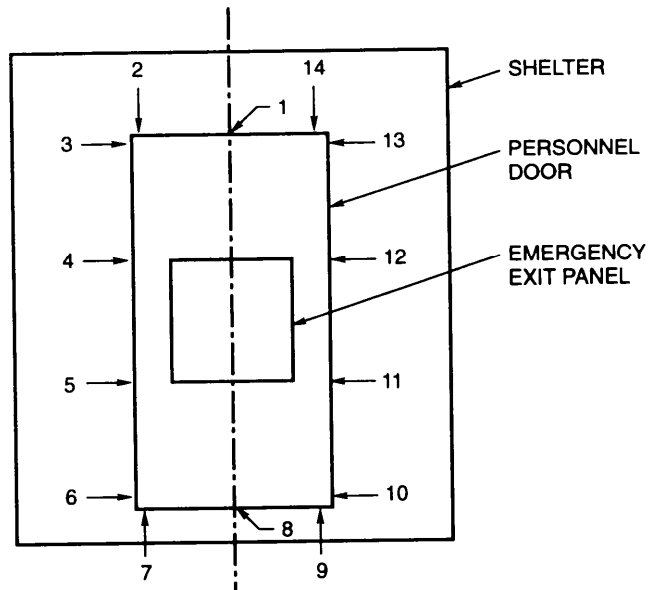
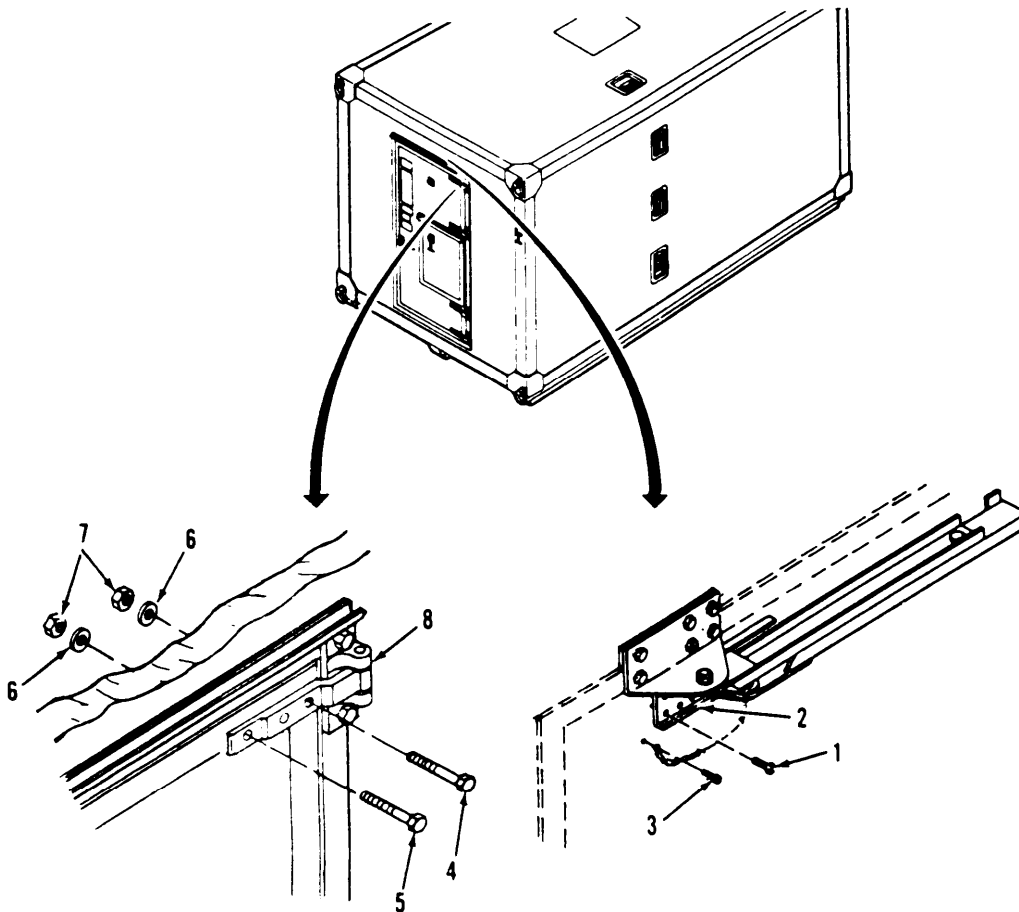
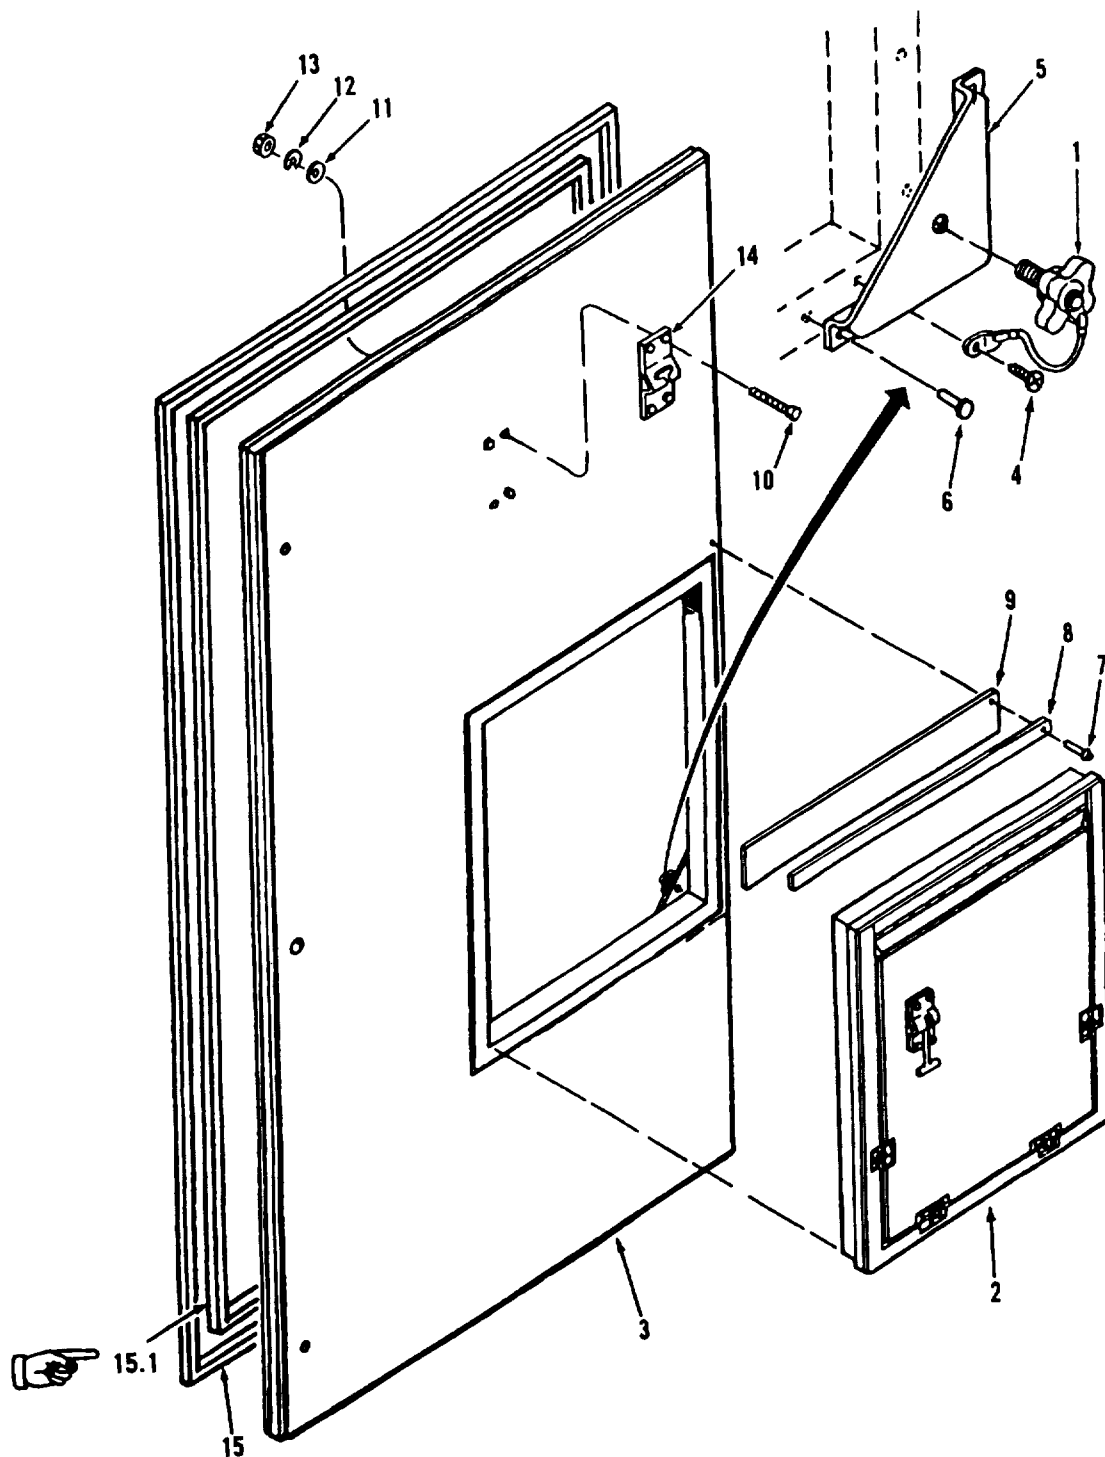
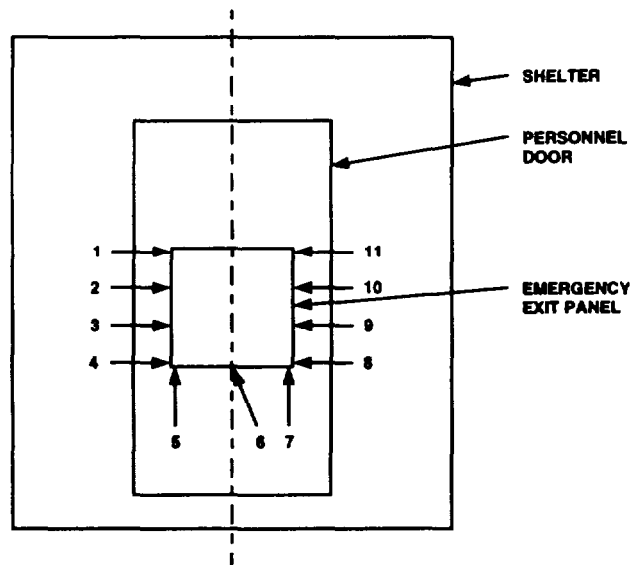

Figure 3-17. Typical Locations for Door Gasket Testing.
Figure 3-19. Door Assembly Replacement
Figure 3-20. Door Assembly Maintenance.
Figure 3-21. Typical Locations for Emergency Exit Panel Gasket Testing
a. Inspect. (Figure 3-20)
- (1) Inspect the door assembly (2) for external damage.
- (2) Inspect the silicone weather gasket (15) for tightness.
- (3) (Shielded) Inspect the EM gasket (1.1) for damage and secure mounting.
- (4) Inspect the door for positive closing and proper operation.
- (5) Inspect the knob assemblies (1) for tightness for securing the emergency exit panel (2) to door panel.
b. Test. (Figure 3-17) Test of the door assembly consists of testing for proper seal pressure on the silicone weather gasket. The procedure listed below shall be performed at the center top and bottom of the door; 1/2 inch from each corner; and along the sides of the door in 2 places (approximately 1/3 and 2/3 the height of the door), as shown in Figure 3-17.
- (1) Place a single piece of paper (0.005 inches maximum thickness by 2-1/2 inches wide) between the silicone weather gasket and its bearing surface.
- (2) Close and lock the door.
d. Remove. (Figure 3-19)
- (1) Remove and retain ten phillips head screws (1) attaching the door stop bracket (2) to inside of the door, and a phillips head screw (3) attaching the chain end.
- (2) Remove and retain the two 5/16-24 x 2-27/32 bolts (4), one 5/16-24 x 2-23/32 bolt (5), three flat washers (6), and three self-locking nuts (7) attaching each of the four hinges (8) to door.
e. Disassemble. (Figure 3-20)
- (1) Turn each of the four knob assemblies (1) counterclockwise to release the emergency exit panel (2) and remove panel from door (3).
- (2) Remove rivet (4) attaching the knob assembly chain (4) to retainer bracket (5) and remove knob. Refer to paragraph 3-9.a. for rivet removal.
- (3) Remove two rivets (6) attaching each air inlet panel retainer (5) to door panel (2) and remove retainers.
- (4) Remove 17 rivets (7) attaching the drip moulding (9) to door and remove drip moulding (9) and drip cap strip (8).
- (5) Remove and retain four phillips head screws (10), flat washers (11), lock washers (12), and nuts (13) attaching each T-latch holder (14) to door (3) and remove holder (14).
- (6) Remove the silicone weather gasket (15) and clean any adhesive residue from track.
- (7) (Shielded) Remove the EM shield (15.1).
f. Assemble. (Figure 3-20)**CAUTION**
- (6) Screw knob assembly (1) into air inlet panel retainer (5) and secure knob assembly chain to retainer with a blind rivet (4).
- (7) Position Emergency exit panel (2) in place on door opening and secure to door (3) by turning the four knob assemblies (1) clockwise.
- (8) Apply a continuous bead of sealer around the mating surface of the T-latch holder (14) and air inlet panel retainers (5) to door.
g. Install. (Figure 3-19)
- (1) For assembly instructions to secure the roller latch assembly on a new door, refer to paragraph 3-20.
- (2) Position door in place and turn door handle to closed position.
- (3) Butt each of the four hinges (8) against the door and secure using two 5/16-24 x 2-27/32 bolts (4), one 5/16-24 x 2-23/32 bolt (5), three flat washers (6), and three self-locking nuts (7).
- (4) Secure the door stop bracket (2) to inside of door using ten phillips head screws (1) and with a phillips head screw (3) secure the chain end.
h. Repair. (Figure 3-20) Repair of the door assembly consists of panel replacement and repair of the silicone weather gasket, (Shielded) EM shield, knob assemblies, air inlet panel retainers, drip moulding and T-latch holder.